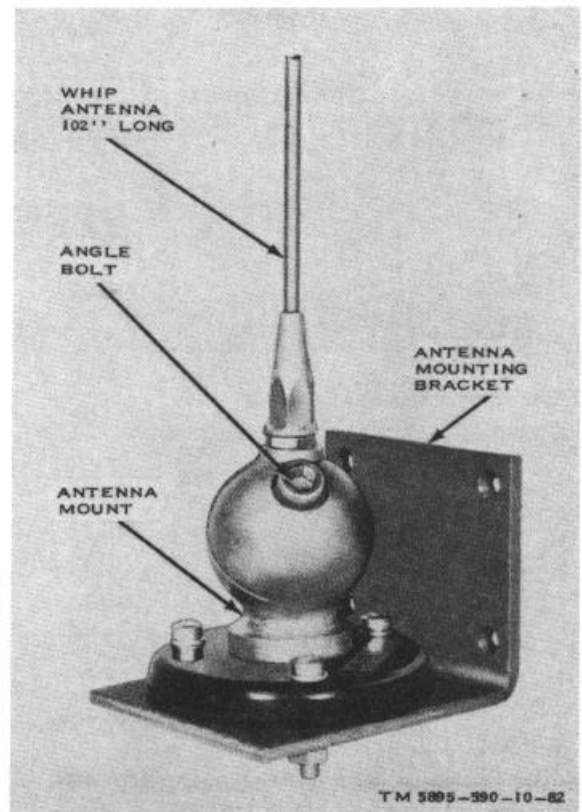

Figure 1-33. Lf antenna.
c. *Antenna M-3B* (fig. 1-33). The lf antenna is made up of a 102-inch whip antenna, a mounting base, and an antenna mounting bracket. The mounting base is of split hemisphere construction which allows the whip antenna to be positioned after attachment to the upper hemisphere. The mounting base is physically attached to the antenna mounting bracket by three mounting screws. A center lug extending through the mounting base and the antenna mounting bracket allows connection of a coaxial lead-in from the associated receiver.